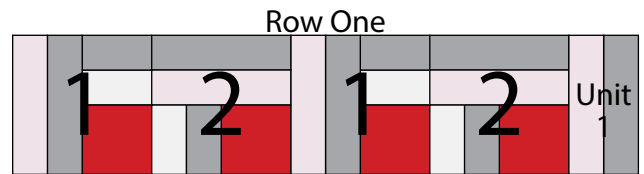

Fig. 5
5. Sew together (2) Block One squares and (2) Block Two squares alternating them from left to right. Sew (1) Unit 1 strip to the right side of the newly sewn strip to make Row One (Fig. 5).